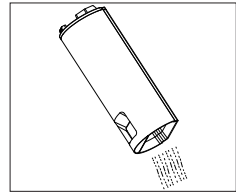

Fig. 12 – Emptying the water tank
- ▶ Empty the dirty water tank over a sink and rinse it out with clean water (see Fig. 12).